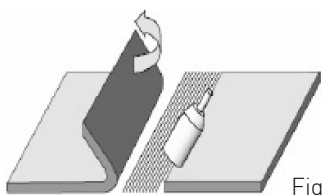

Fig.10
2. Fold one half of the layer at the seam. (See Fig.10)